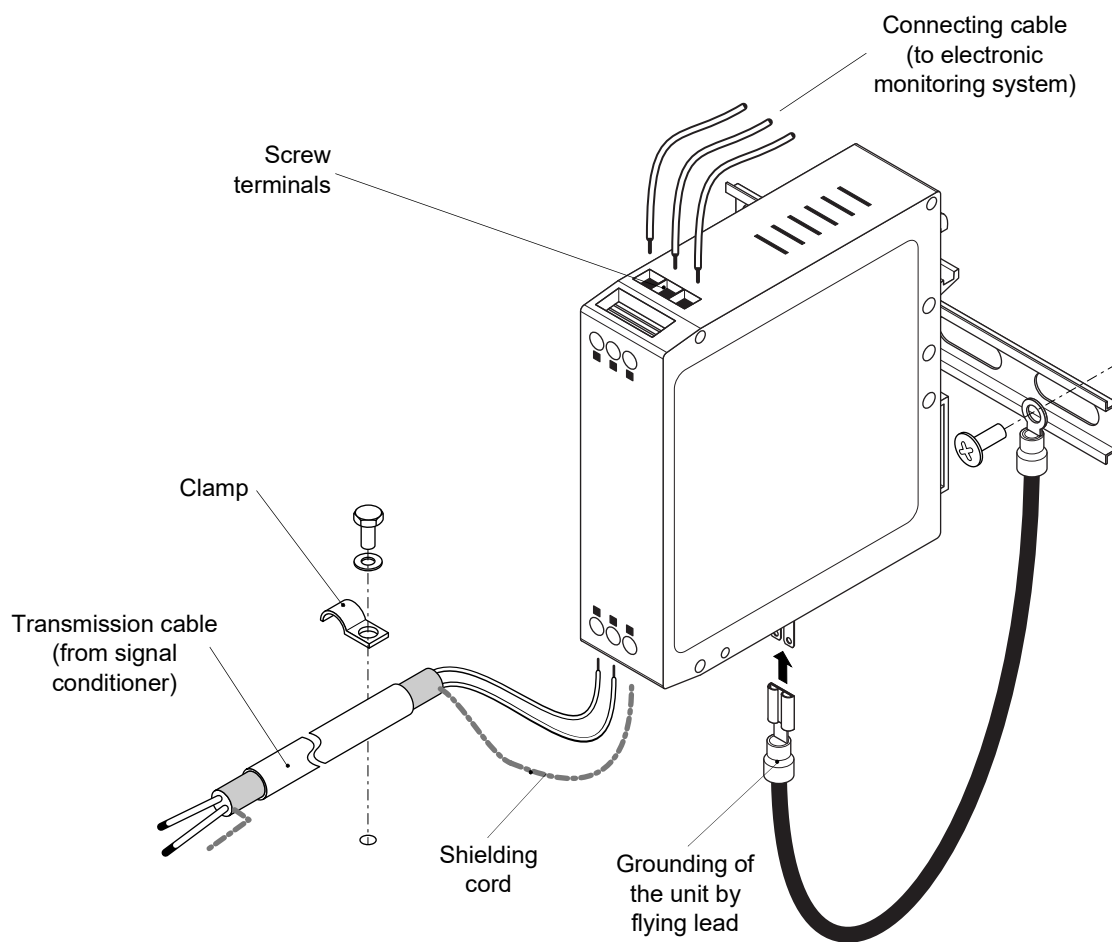

Figure 5-3: GSI124 galvanic separation unit
A GSI124 galvanic separation unit is generally mounted in an industrial housing, rack or cabinet. The transmission cable from the “sensor-side” circuitry and the connecting cable to the “monitor-side” circuitry are connected to the GSI124 using screw terminals (see Figure 5-3).
- 2- Identify each wire for both the transmission cable from the “sensor-side” and the connecting cable to the “monitor-side” that are connected to the GSI124. See Figure 5-3 and use Table 5-1 to record the number and/or colour for each wire.
- 5- Disconnect the grounding. That is, disconnect the black flying lead terminated with a crimp from the underside of the GSI124 and then remove this lead from the DIN rail, as it is not required by the GSI127 (see Figure 5-3).